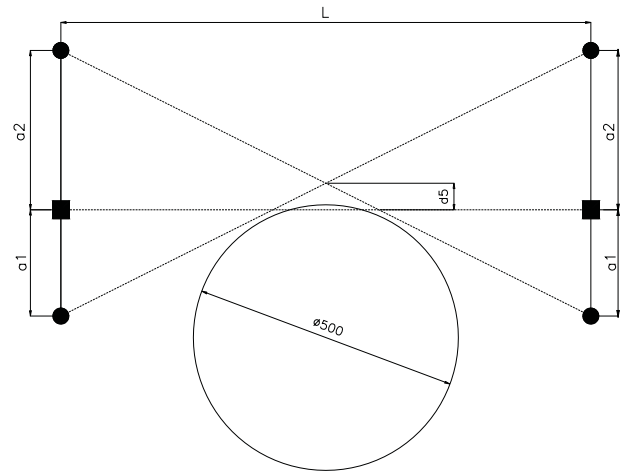

Figure 8
- An opaque cylindrical test object, having a diameter of 500 mm, must not be able to initiate the muting function. The 500 mm diameter cylindrical test object must be detected by the safety light curtain before it activates the muting sensors (see Figure 8).